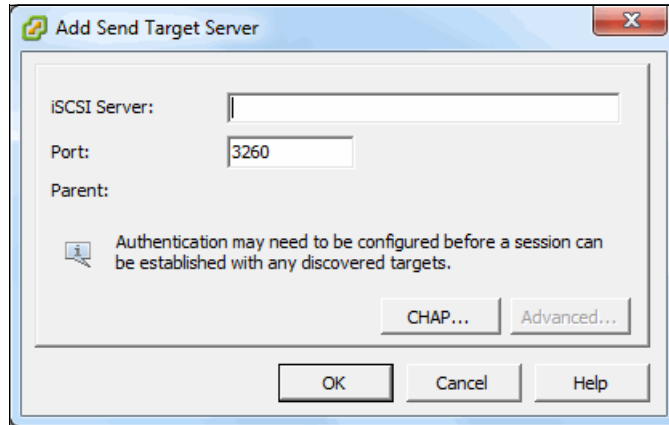

Figure 5-59 Adding a target IP to the iSCSI Initiator
3. The window shown in Figure 5-59 opens. Enter a target IP address, which should be one of the IPs configured during setup, as described earlier in this book. The target IP address is the iSCSI IP address of a node in the I/O Group from which the iSCSI volumes are mapped. Keep the default value of 3260 for the port and click **OK**.